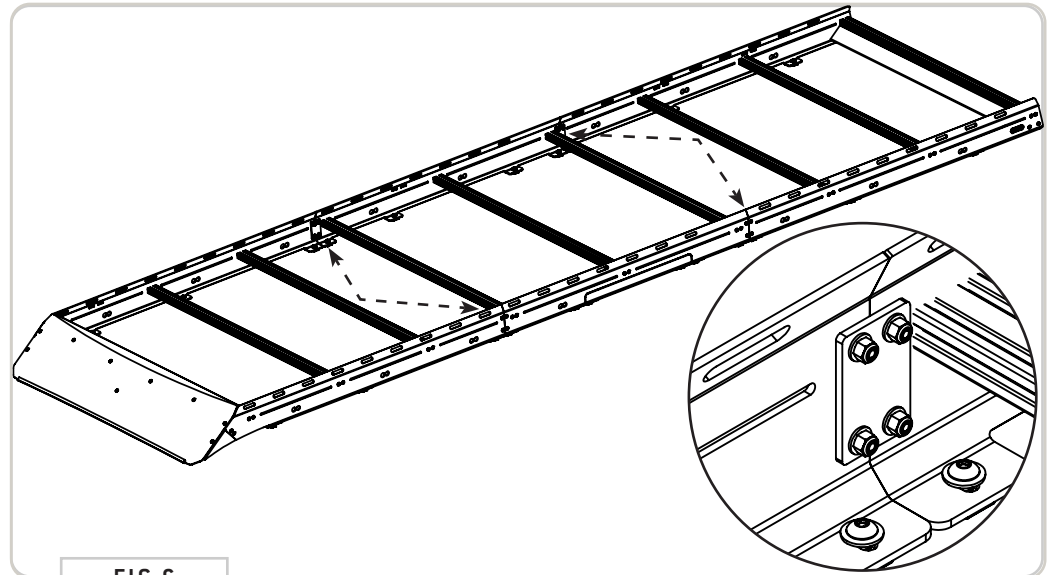
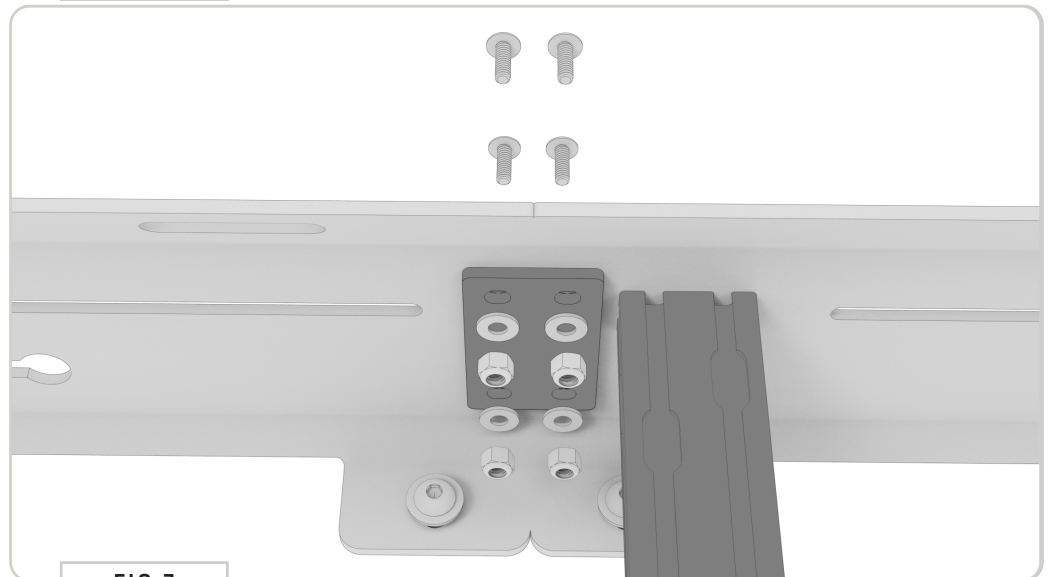

FIG 6
FIG 7
2.2 Side Rail Connecting Plates: Install the **Side Rail Connecting Plates** to the locations shown in FIG 6 using (4ea) **1/4-20 x 0.75 Flanged Button Head Screws, Flat Washers and Nylon Locknuts** to loosely join the Side Rails together (FIG 7).